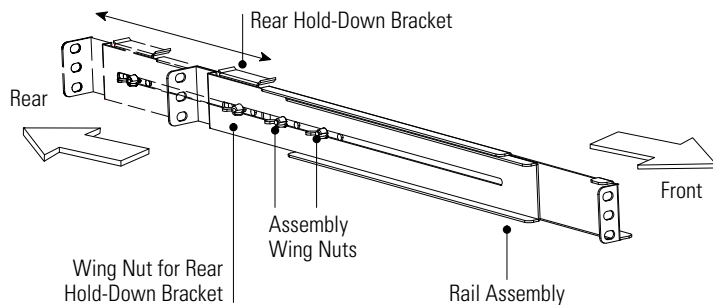

Figure 7. Adjusting the Rail Depth
3. Loosen the assembly wing nuts on both rail assemblies and adjust the rail size for the depth of your rack (see Figure 7).